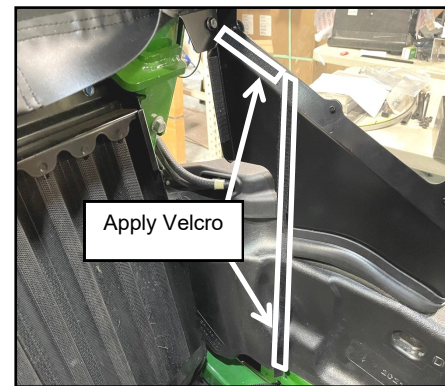

Fig. 2.21 (Apply Velcro to Left Filler and Fender)
- 2.21** Apply P.S.A. Velcro on the left fender up the left filler per Figure 2.21. Continue the Velcro on the lower edge of the window.